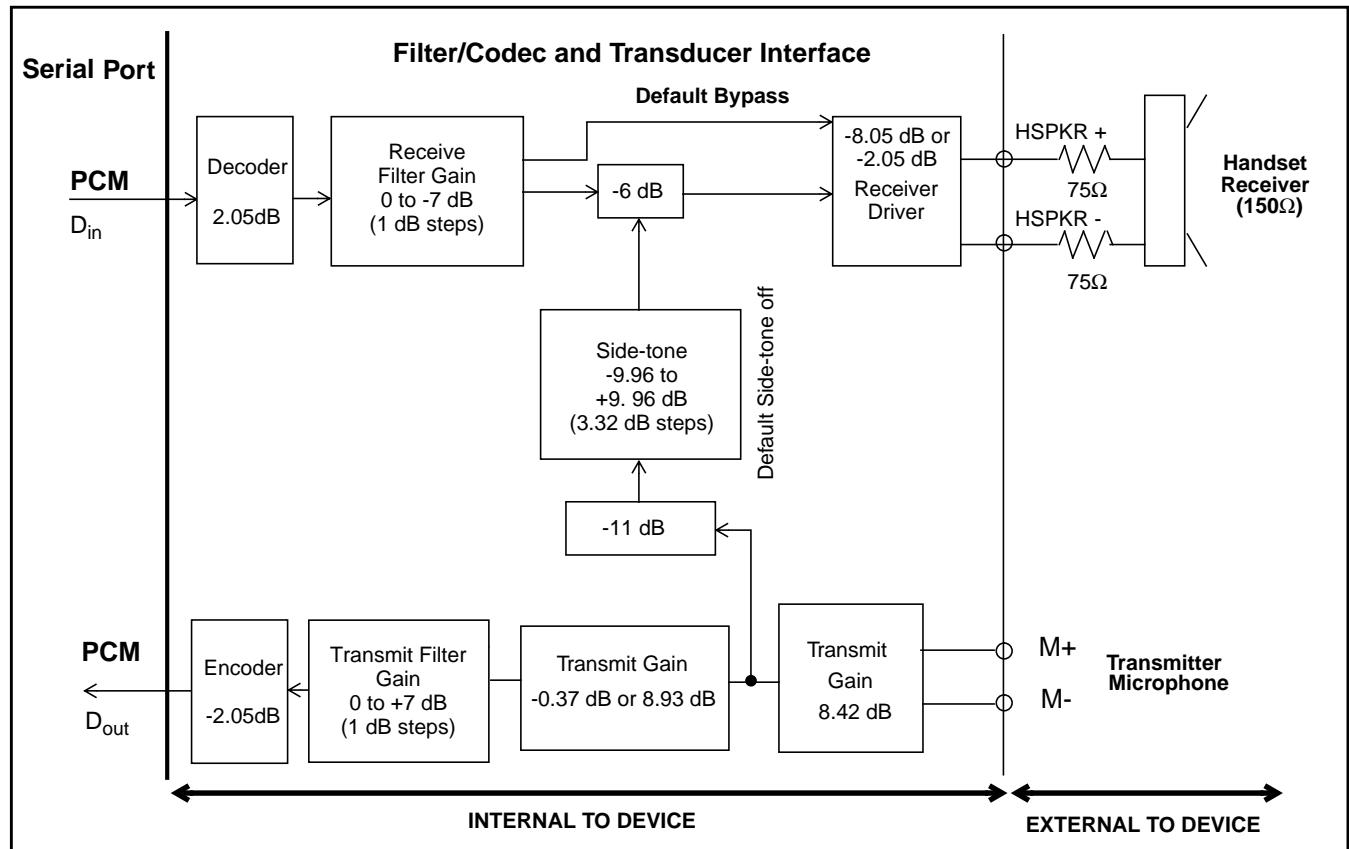

Figure 3 - Audio Gain Partitioning
The Filter/Codec block also implements transmit and receive audio path gains in the analog domain. A programmable gain, voice side-tone path is also included to provide proportional transmit speech feedback to the handset receiver. This side tone path feature is disabled by default. Figure 3 depicts the nominal half-channel and side-tone gains for the MT9160B/61B.
- The handset speaker outputs (receiver), pins $\text{HSPKR}^+/\text{HSPKR}^-$. This internally compensated fully differential output driver is capable of driving the load shown in Figure 3. The nominal receive path gain may be adjusted to either 0 dB, -6 dB or -12 dB. Control of this gain is provided by the RxINC control bit (Gain Control register 1, address 00h). This gain adjustment is in addition to the programmable gain provided by the receive filter.